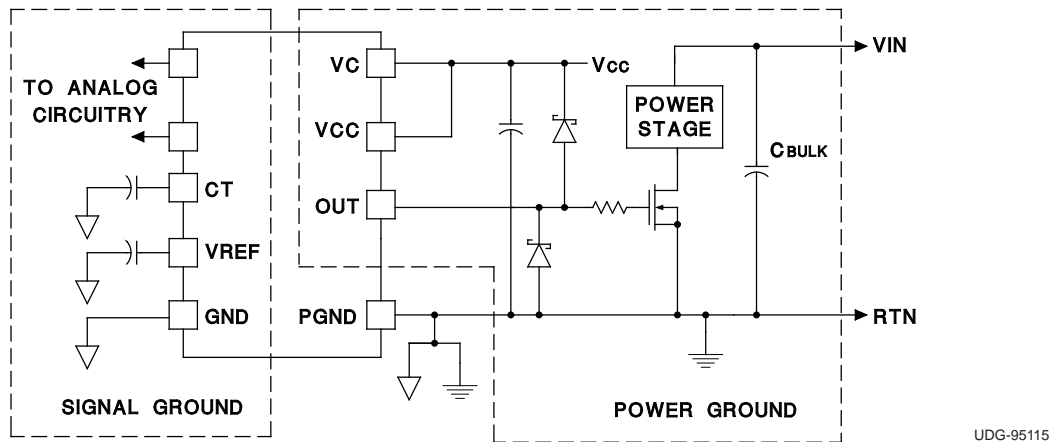

Figure 13. Ground Planes Diagram
Each totem pole output can deliver a 2-A peak current into a capacitive load. The output can slew a 1000-pF capacitor by 15 V in approximately 20 ns. Separate collector supply (VC) and power ground (PGND) pins help decouple the device's analog circuitry from the high-power gate drive noise. The use of 3-A Schottky diodes (1N5120, USD245, or equivalent) (see Figure 13) from each output to both VC and PGND are recommended. The diodes clamp the output swing to the supply rails, necessary with any type of inductive/capacitive load, typical of a MOSFET gate. Schottky diodes must be used because a low forward voltage drop is required. Do not use standard silicon diodes.